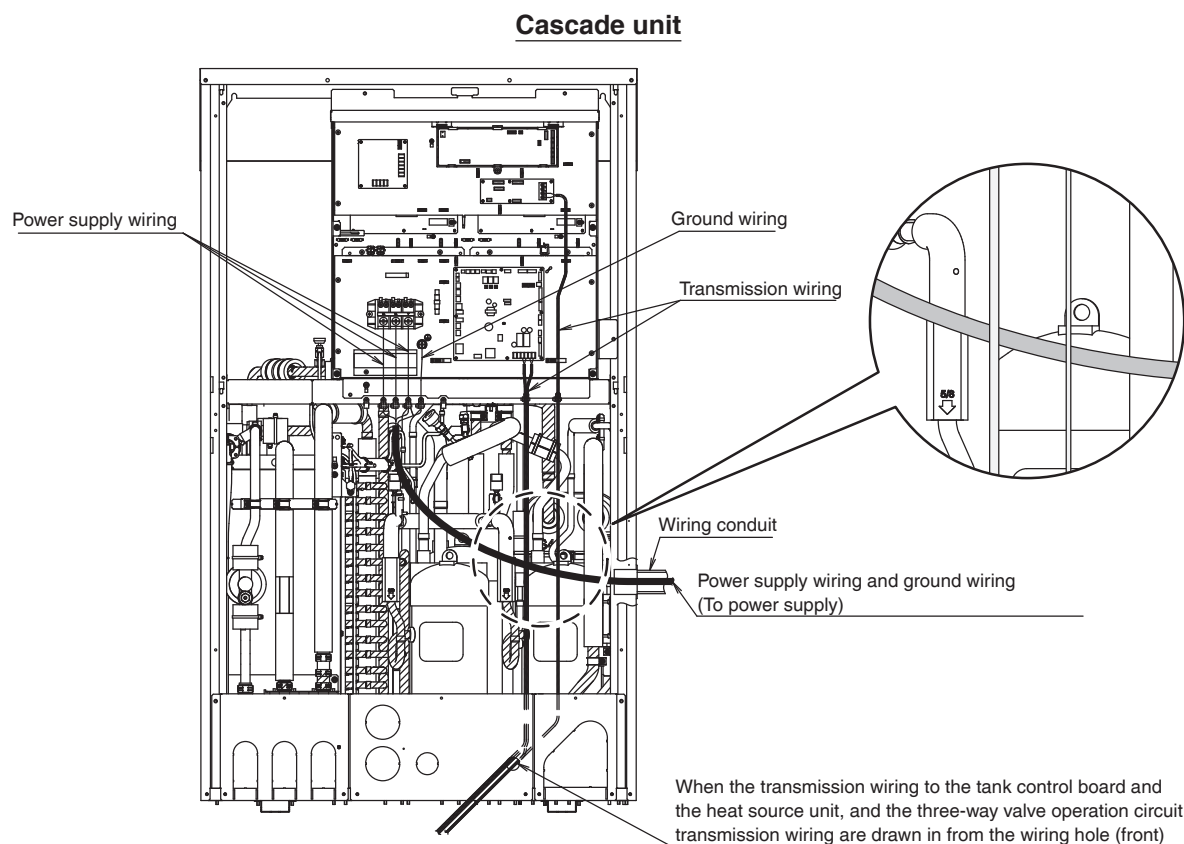
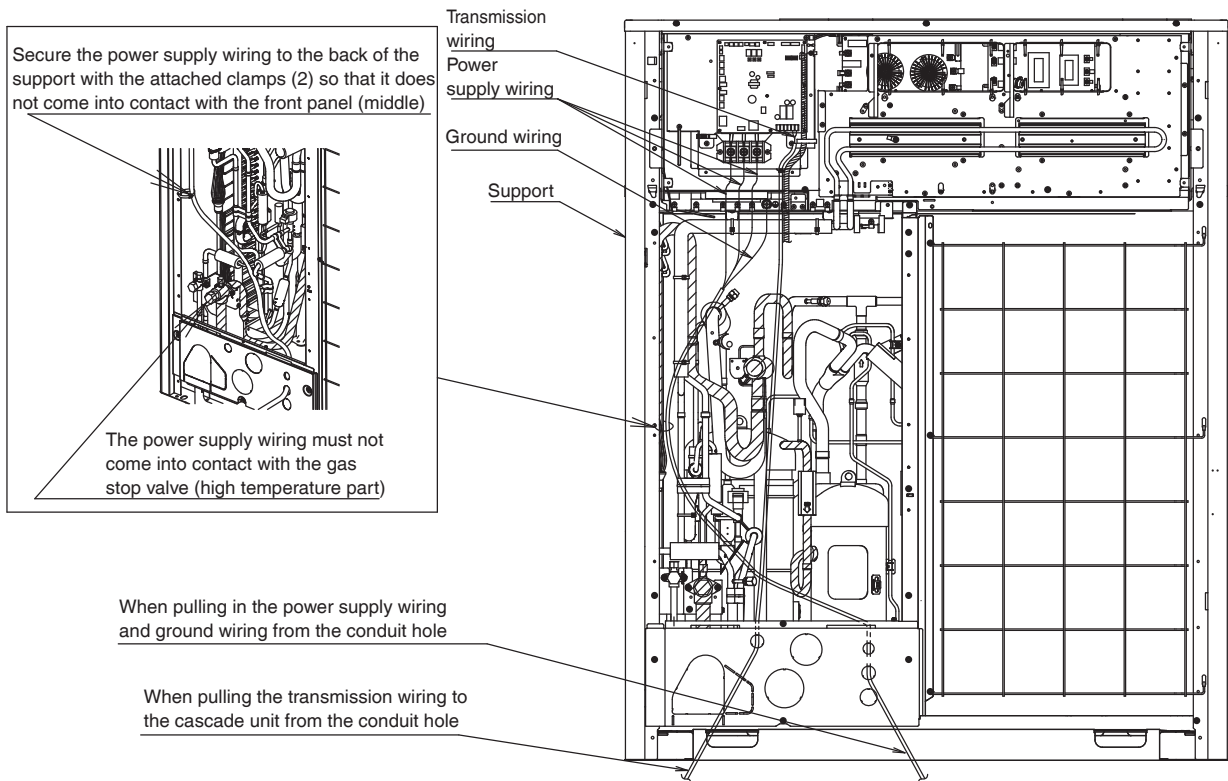

Fig. 27
Fig. 28
- Refer to Fig. 27 and Fig. 28 for wiring.
- Route so that wiring does not come into contact with the compressor and high temperature piping (▨ in Fig. 27 and Fig. 28).